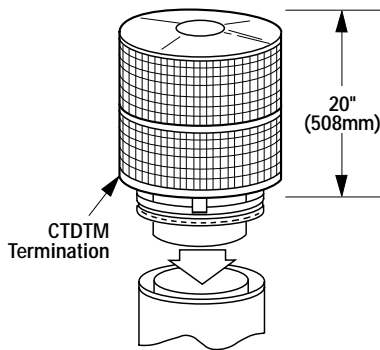

Figure 34
1. Hold the FTF10 CTDTM over the top of the last chimney section installed (**Figure 34**).